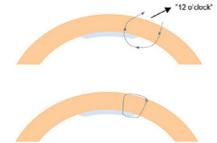

Fig.2 EndoArt® suturing
18. Suture the implant (single suture, nonabsorbable, at exactly 12 O'clock perpendicular to the center, according to Fig. 2). The perpendicular orientation of the suture is important to prevent decentration. The suture will be removed not sooner than 6 weeks from obvious attachment.